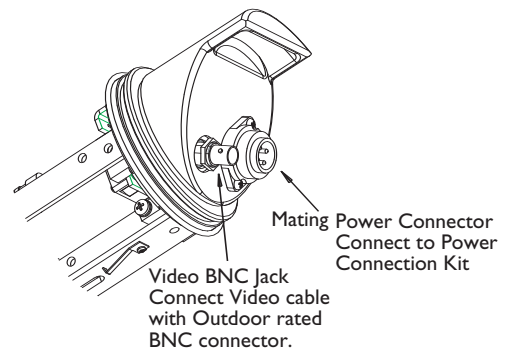

Figure 5 Video Connection
7. Connect the assembled kit to the mating power connector plug located on the housing cradle. See **Figure 5**.
1. Connect the video cable to the housing using an appropriate outdoor rated BNC connector. See **Figure 5** for location.